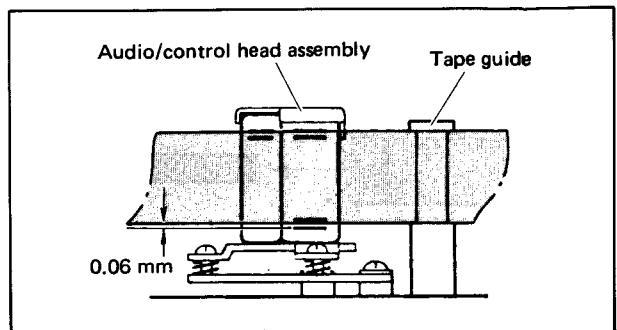

Fig. 4-49 Audio/control head height
7. If the tape separates from the tape guide or wrinkling occurs at the tape guide, adjust by turning screw C of the audio/control head as shown in Fig. 4-49.
8. Carefully and evenly adjust screws A, B and C to align the audio/control head height with the tape as shown in Fig. 4-49.